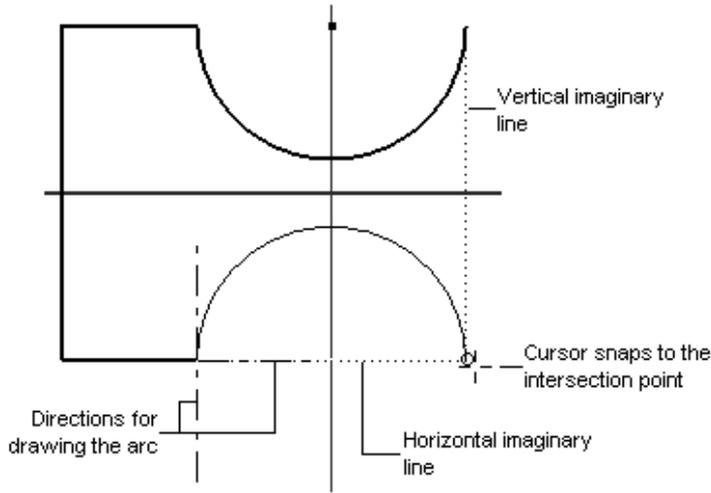

*Figure 2-56 Sketch showing different points for Tutorial 3*
7. Move the cursor toward the left in the graphics window. Enter **12** in the length input field, press the TAB key and then enter **180** in the angle input field in the Dynamic Input; the line between points 2 and 3 is created. Refer to Figure 2-56 for point numbers.
1. In Figure 2-56, the major and minor grid lines and the triad have not been displayed for a better display of the sketch and the imaginary lines.